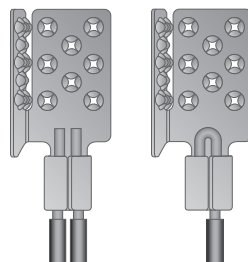

Fig. 7. Crimp cables in terminals
10. Prepare the interconnecting cables for the rows of heating foil. (fig.7)